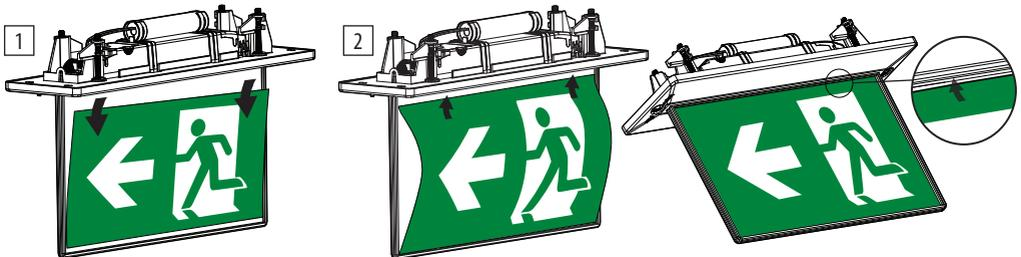

Figure 9: Inserting decals into the Razor
- Slide the decal into the slot at the bottom of the Razor as shown in **Figure 9**.